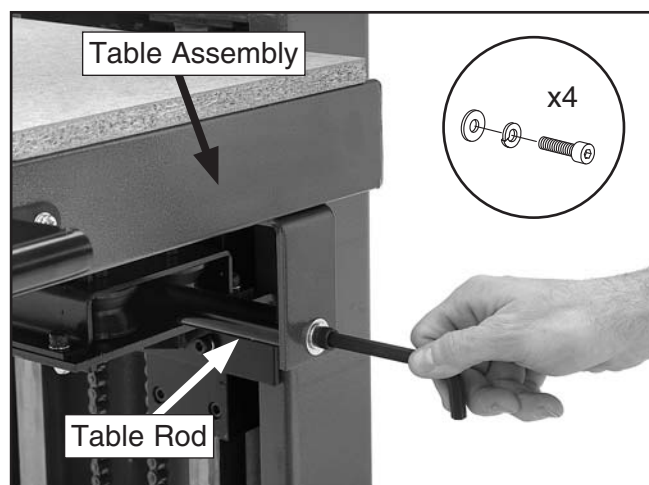

Figure 19. Attaching table.
11. Place the table assembly over the table rods, then attach it with (4) $\frac{3}{8}$ "-16 x $\frac{3}{4}$ " cap screws, (4) $\frac{3}{8}$ " lock washers and (4) $\frac{3}{8}$ " flat washers, as shown in **Figure 19**.